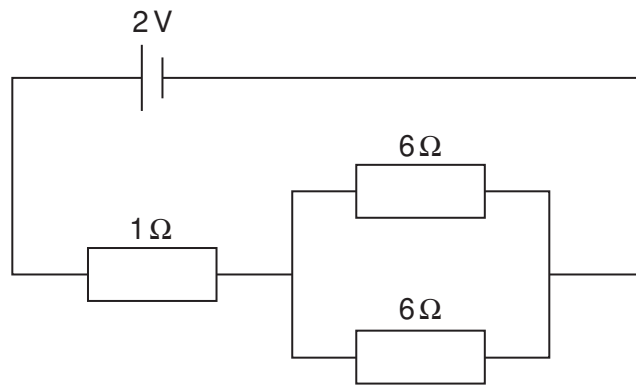

Fig. 3
- 6 (a) Fig. 3 shows an arrangement of resistors in a circuit.